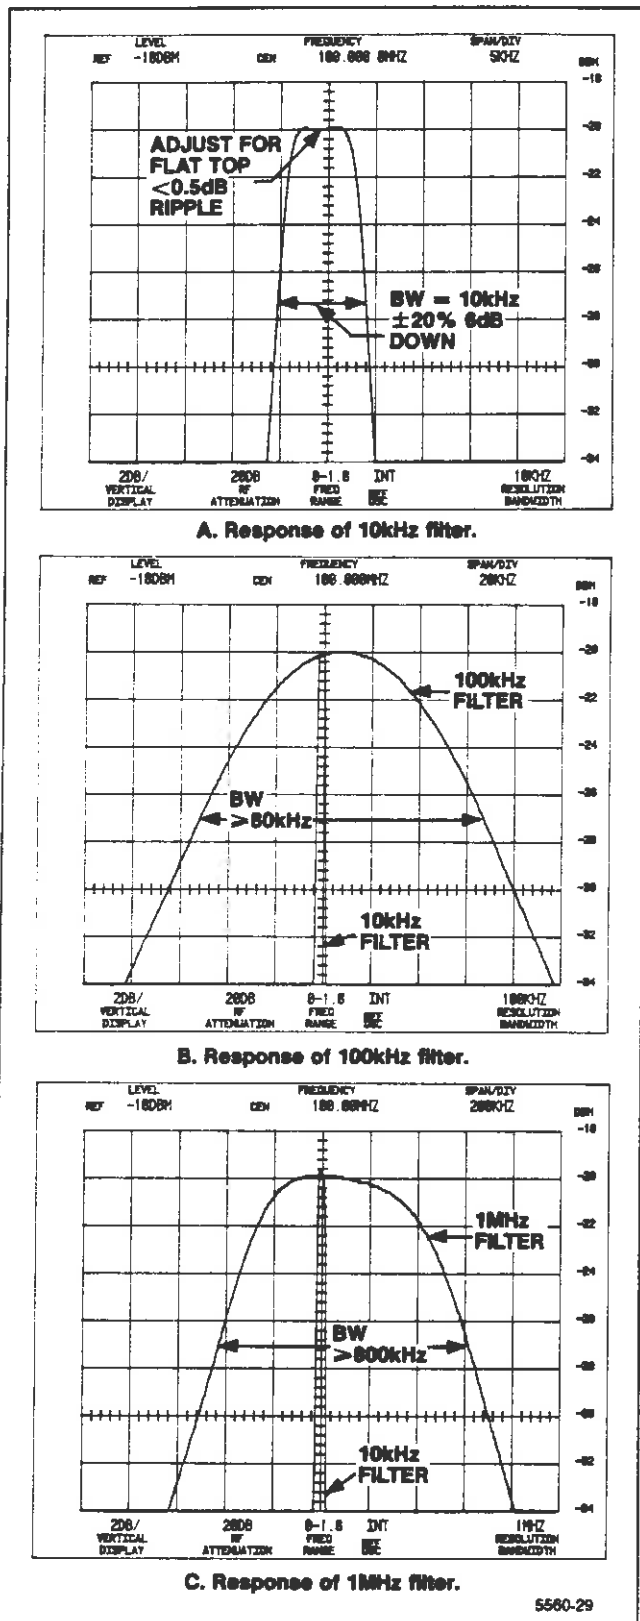

Figure 5-19. 10 kHz, 100 kHz, and 1 MHz filter response.
s. Check the waveshape, bandwidth, and centering of all filters. If necessary, make only fine or minor adjustments. Figure 5-19 shows typical response shapes.
(1) Set the FREQ SPAN/DIV to 20 kHz, RESOLUTION BANDWIDTH to 100 kHz, and REF LEVEL to -20 dBm.
(2) Adjust all filters to the 100 kHz level as per the following Table 5-3. Change FREQ SPAN/DIV as necessary to maintain a suitable display.
u. Press <SHIFT> 0 (DIAGNOSTIC FUNCTIONS) and select item 5 (DISABLE/ENABLE USE OF CAL FACTORS), then item 1 (USE RESULTS), to re-enable use of cal factors. Press <SHIFT> CAL.